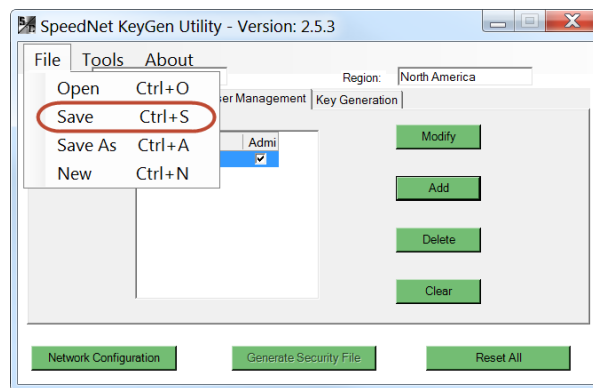

Figure 29. SpeedNet KeyGen Utility window save SAD.
STEP 1. Open the **File** menu in the upper-left corner of the SpeedNet KeyGen Utility window, and scroll down and select the **Save** button. See Figure 29.